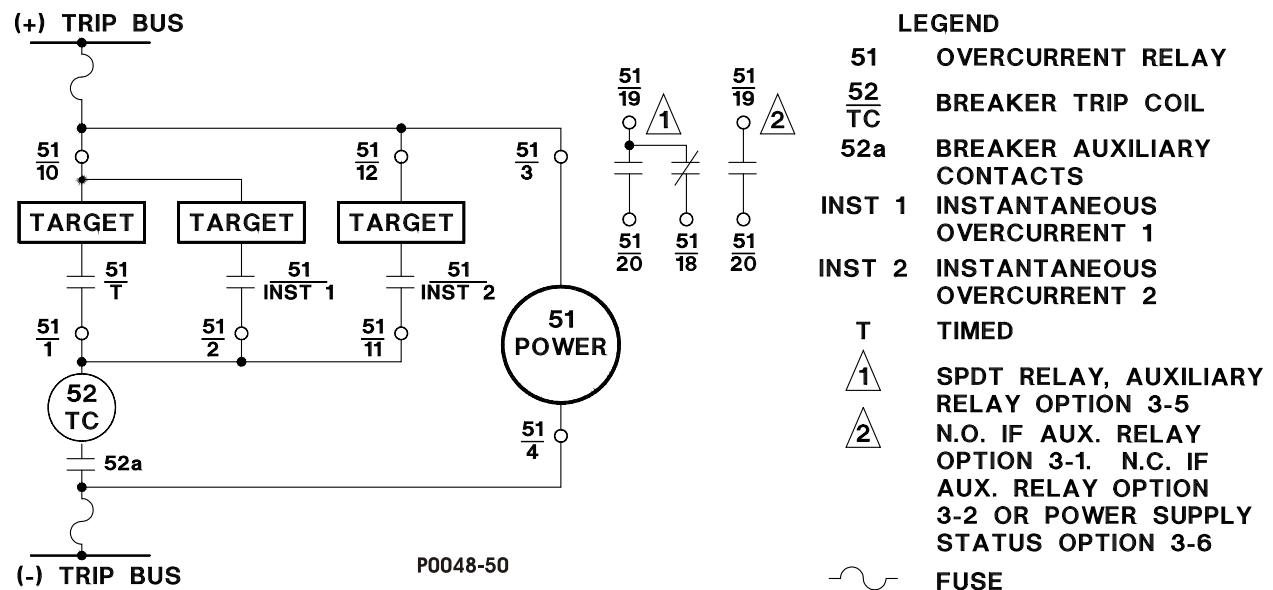

Figure 4-13. Typical External Connections, Current Operated Targets, DC Powered
- Figure 4-13: Typical External Connections, Current Operated Targets, DC Powered